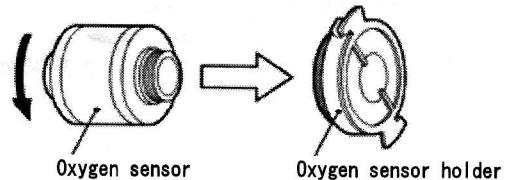

Fig. 2
1. Assembling the oxygen sensor <Fig.2>